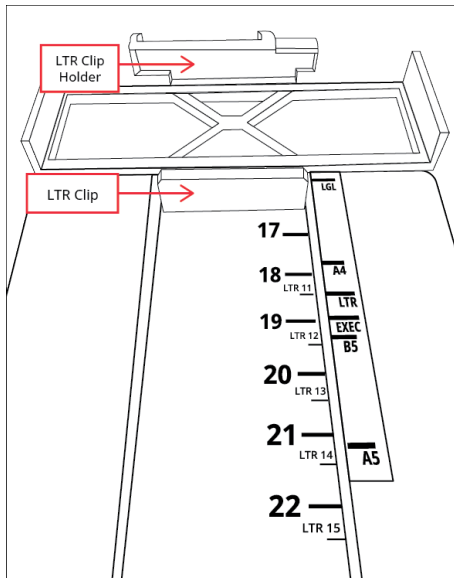

Figure 4-10. Lexmark MS521dn adjustable paper tray – fully collapsed
The Lexmark MS521dn printer is capable of printing ballots up to 22 inches long. You can adjust the printer's paper tray to hold paper of any length between 11 and 22 inches. The paper tray contains a LTR clip that is inserted when paper with a length between 11-15 inches is used. The LTR clip is removed when paper with a length between 16-22 inches is used. Figure 4-10 shows the Lexmark MS521dn adjustable paper tray fully collapsed with the LTR clip inserted.
1. Insert the LTR clip into the paper tray and ensure the adjustable portion of the tray is fully collapsed as shown in Figure 4-10 above.